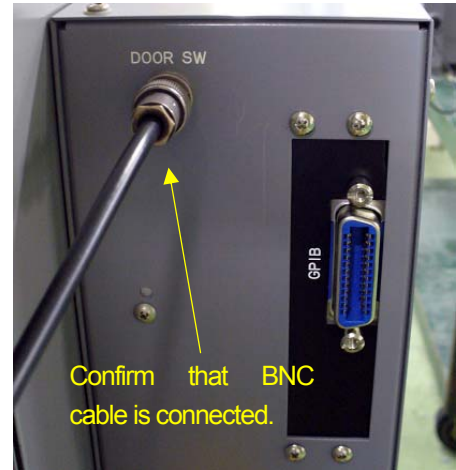

Fig.2-10 Door switch (DOOR SW)
① As shown in Fig.2-10, confirm that BNC cable is connected from the chamber to the door switch on **the rear of the scanner unit.**